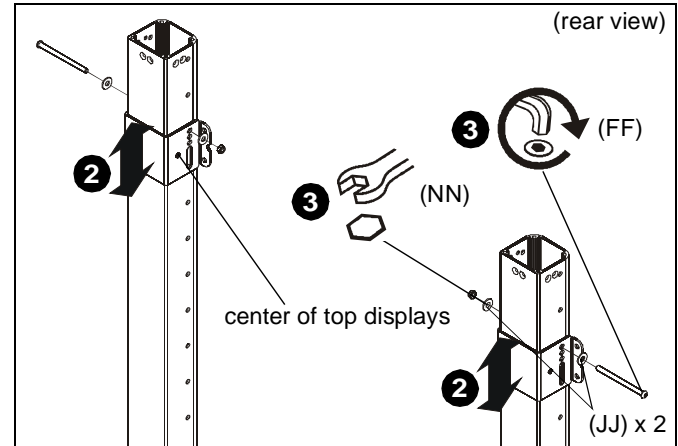

Figure 8
- IMPORTANT !** : Install all column add-ons (V), if applicable, prior to installing rails to columns.
2. Place clamp brackets (P) on columns in the position of where the center of the top displays will be on the cart with the diamond on the brackets being placed at the exact center location. (See Figure 8)
3. Use 5/16-18 x 4 1/2" button head cap screw (FF), two 5/16" washers (JJ) and 5/16-18" lock nut (NN) to secure each clamp bracket (P) to column. (See Figure 8)